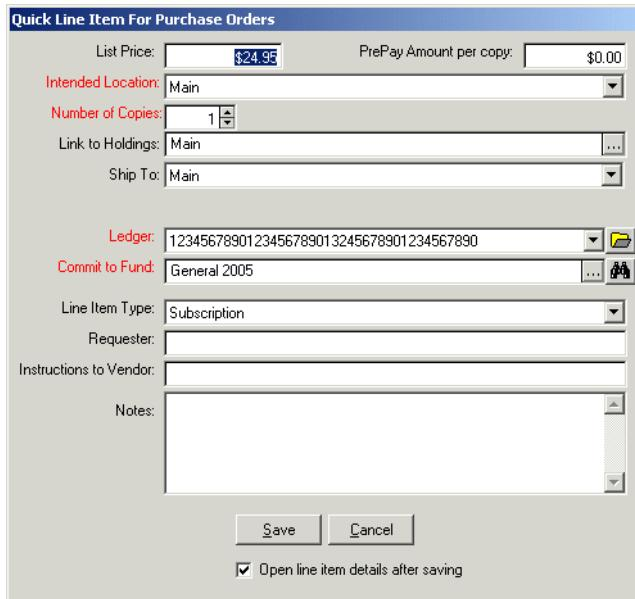

Figure 13-11. Quick Line Item dialog box - ellipsis displayed beside the Link to Holdings field
- The **ellipsis** button beside the **Link to Holdings** field on the **Quick Line Item** dialog box. The Quick Line Item feature provides a way for you to improve the efficiency of line item and purchase order creation by presenting only required and commonly-used information. The **Quick Line Item** dialog box opens (Figure 13-11) allowing you to enter basic line item information in a single spot rather than over a number of tabs. See Quick Line Item on page 6-29 for more information.